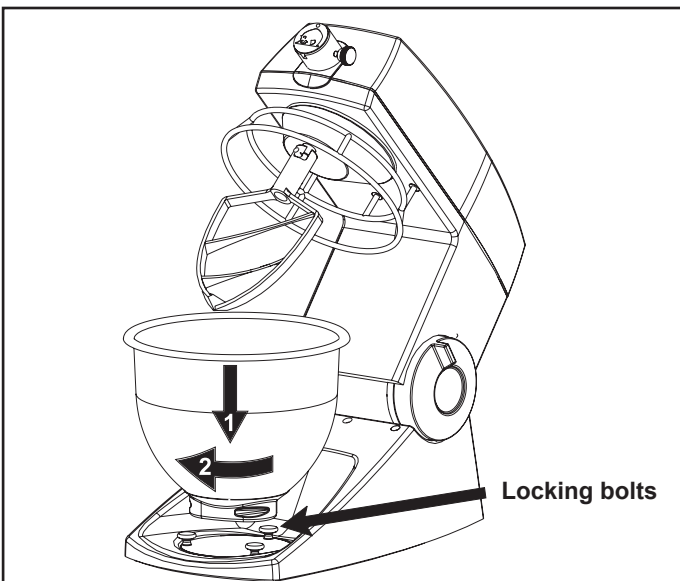

Fig. 5 Place the bowl in the mixer and turn it to be fixed in the locking bolts.
D. Place the bowl between the three locking bolts in the foot of the mixer and turn it clockwise until locked (fig. 5).